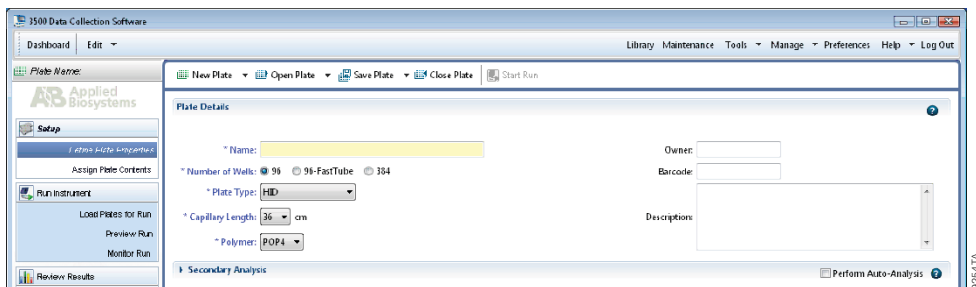

Figure 9. Defining plate properties.
- Assign a descriptive plate name. Select the plate type “HID” from the drop-down menu (Figure 9).